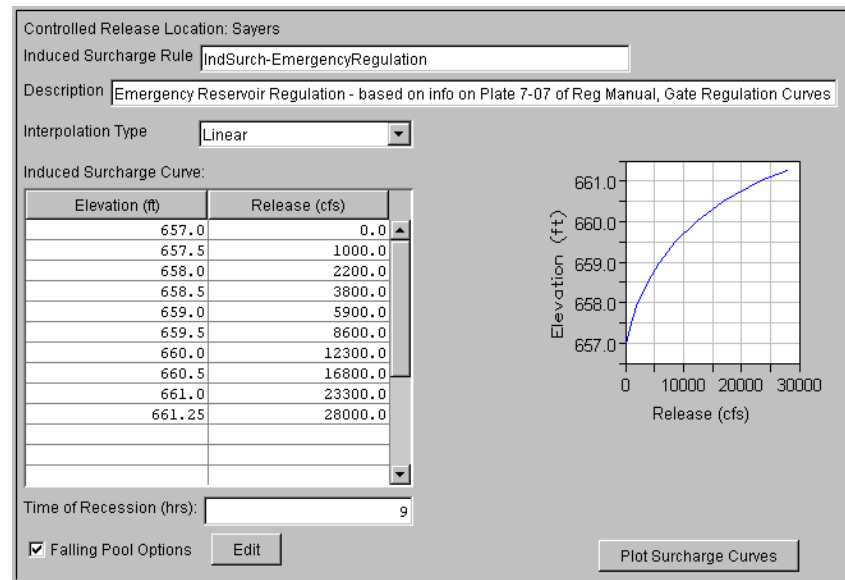

Figure 11.22 Reservoir Editor--Operations Tab: Induced Surcharge Rule
Within the **Induced Surcharge** rule editor (Figure 11.22), the **Induced Surcharge Curve**, **Time of Recession**, and **Falling Pool Options** determine the magnitude and duration of gate-regulated releases, and how emergency release should transition back to normal flood control releases. The mini-plot will reflect the **Elevation** vs. **Release** values you enter for the Induced Surcharge Envelope and can be viewed in full size when you double-click on it.
1. Highlight the appropriate rule in the operations tree to access the **Induced Surcharge** rule editor (Figure 11.22). The name and description of the rule will appear in the **Induced Surcharge Rule** and **Description** fields.